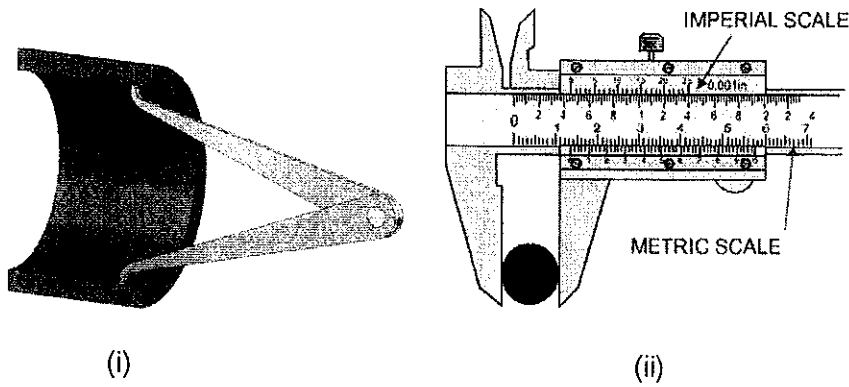

Figure 3: (i) Indirect measurement, (ii) direct measurement.
- (b) Figure 3 (i) and (ii) above shows two type of measurement method. There are indirect method and direct method. Differentiate between both of the method and explain which methods is more accurate.